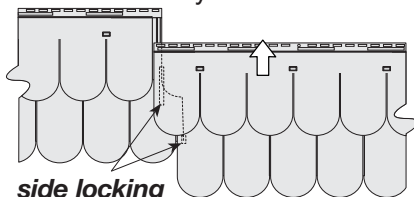

FIGURE 6
- 10) Cedar Impressions Half-Rounds may also be installed by sliding the right panel up while ensuring the side lock tabs engage with the flange of the left panel (figure 6).